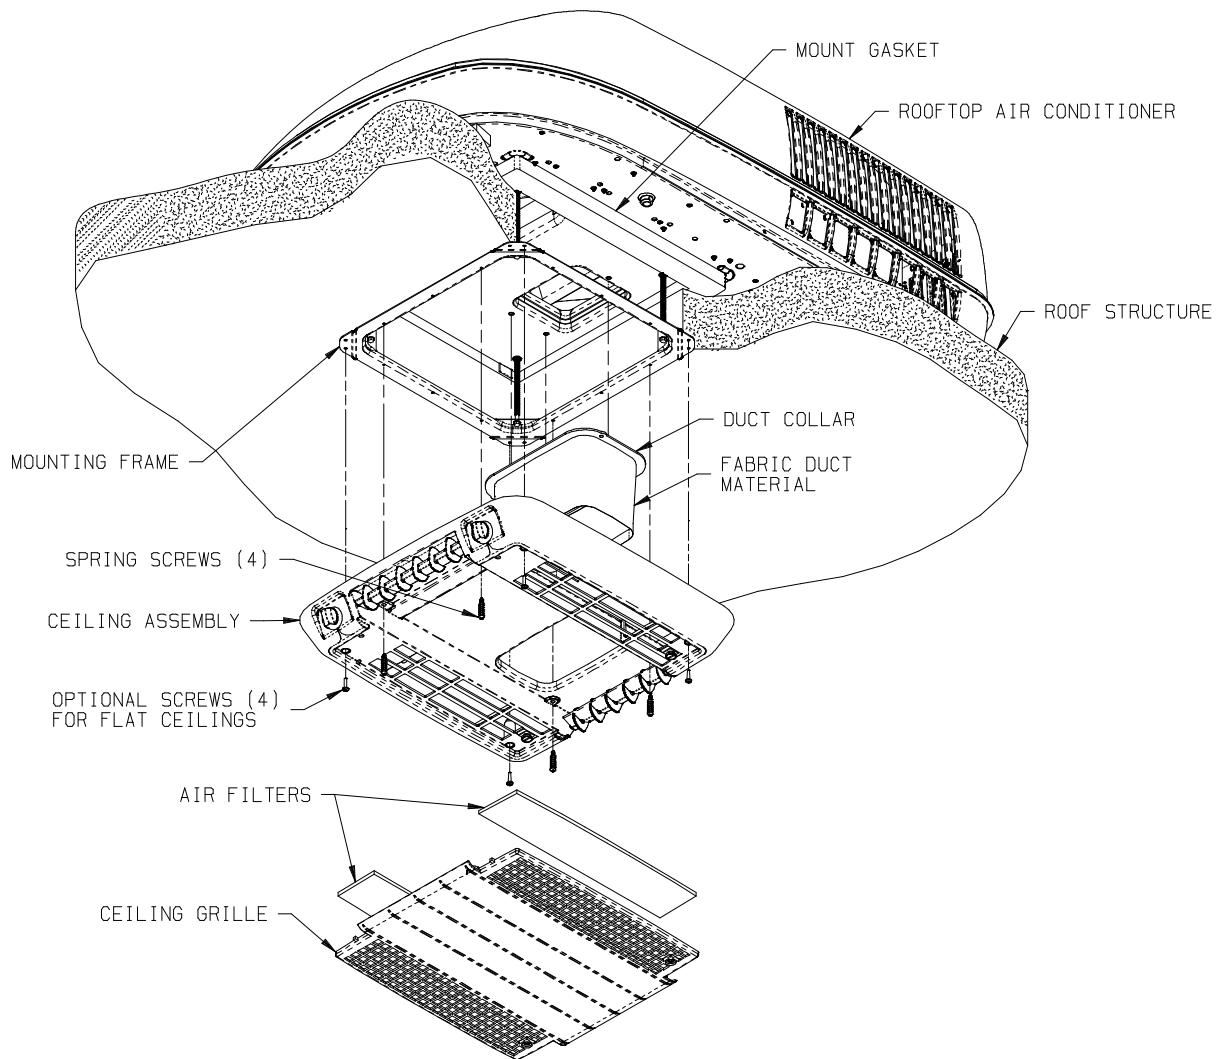

FIGURE 9
- D. Fasten the duct collar to the basepan of the air conditioner with three (3) screws (See Figure 9).
- I. Raise the ceiling assembly and secure to the mounting frame with 4 provided shoulder screw/spring assemblies. The front two screws should pass through the clearance holes in the metal control box shield (See Figure 9).